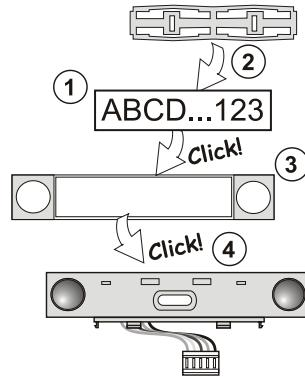

Figure 3: Inserting a label into a control segment
- a. When the device is switched on, the yellow backlit activation button (3) starts flashing repeatedly to indicate that the module has not been enrolled into the system.
- c. Press the backlit activation button (3) above the screen – the module is thus enrolled and the yellow LED indicator goes off.
9. When you have completed the installation, insert descriptive labels onto the segment transparent covers and close them, see figure 3. Label printing is a part of the F-Link software (**Devices** window, at the module position – **Internal settings**).